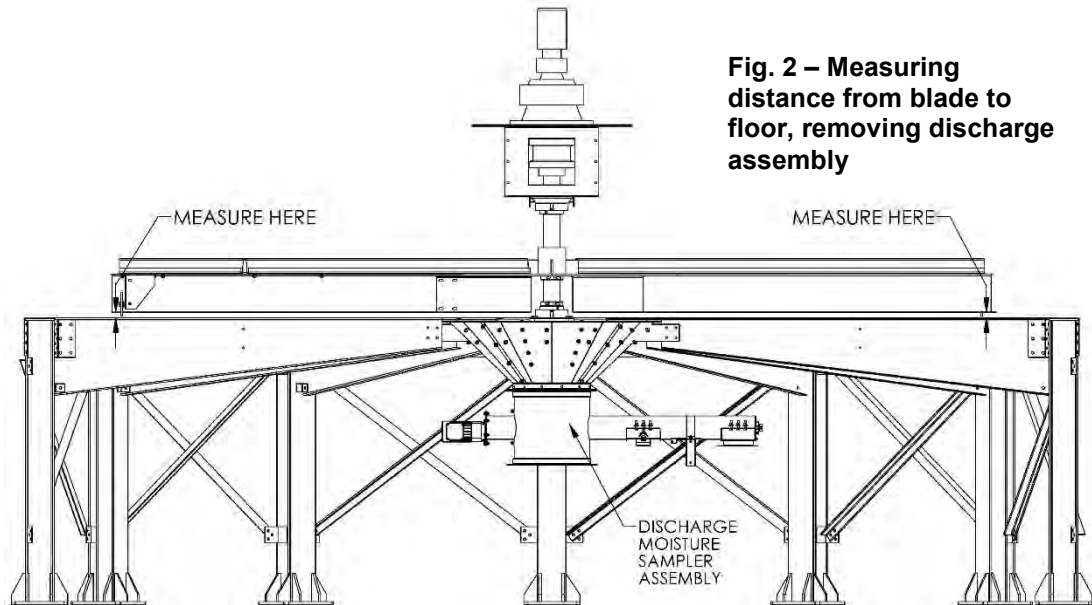
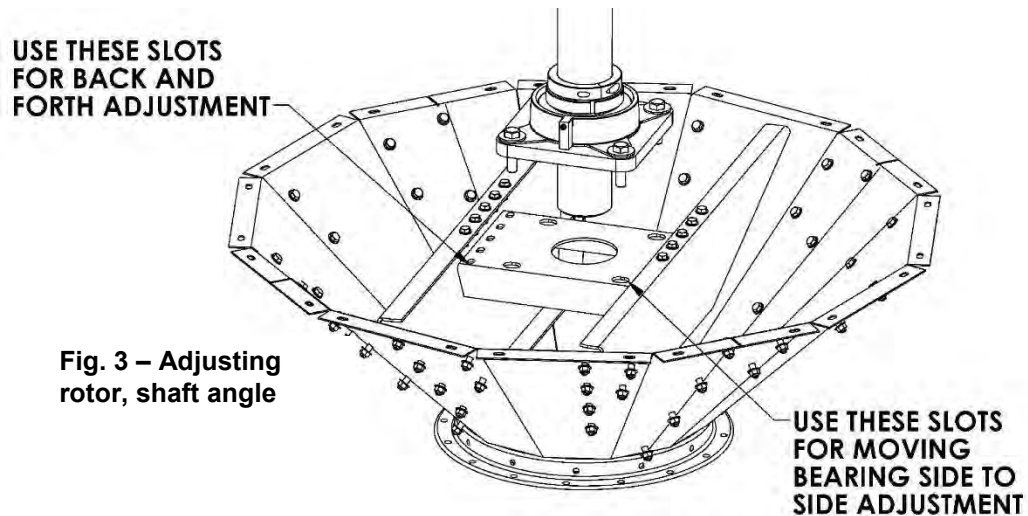

Fig. 2 – Measuring distance from blade to floor, removing discharge assembly
Fig. 3 – Adjusting rotor, shaft angle
1. **Make sure bottom of scraper blades are parallel to grain floor.** Choose one scraper blade and measure distance from bottom of blade to grain floor. See Fig. 2. Run unload rotor and stop it every 90° to check the same measurement. If measurements vary by more than 1/2", adjust angle of rotor and shaft.
- 2. Adjust rotor/shaft angle to grain floor.** Start by loosening four bolts for upper bearing, but do not remove bolts. Next, remove discharge moisture sampler assembly. See Fig. 2. This will provide access to lower bearing bolts and bottom of rotor shaft. Loosen four bolts on lower bearing and 10 bolts on lower bearing plate, but do not remove bolts. Lower bearing bolts are in slots in one direction and bolts holding bearing plate in are slotted in other direction. See Fig. 3. Using a pry bar from under dryer, push rotor shaft in direction needed to equalize measurements taken in Step 1. **NOTE:** On some tower dryers there may not be slots in lower bearing plate. If necessary, use a grinder to make slots or use slightly smaller bolts for lower bearing. Retighten all bolts once shaft has been adjusted.